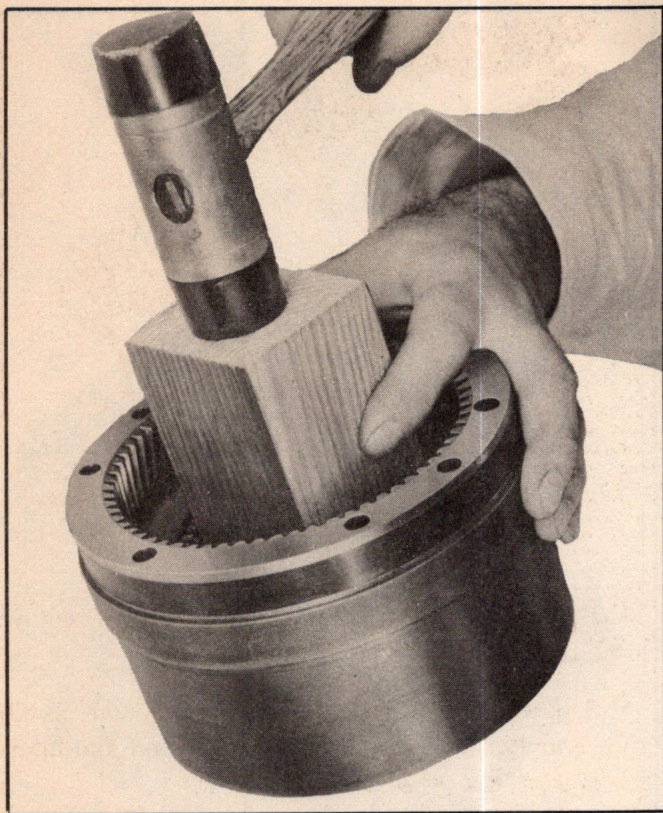

Fig. 140—Removing Rear Unit Clutch Drum
4. Separate drums by tapping lightly on clutch drum rear thrust face, using block of wood and hammer (Fig. 140).